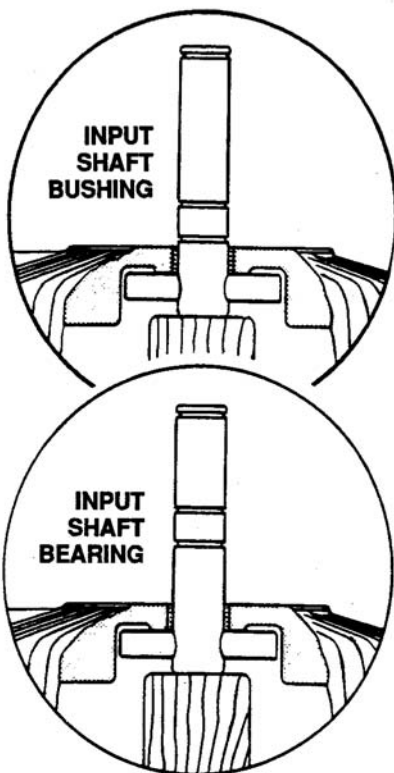

Figure 6-119. Input Shaft Support
5. Turn cover over. Support input shaft from underneath. Use a piece of steel bar stock or hard wood — 2 inches in diameter by at least 2-1/2 inches long to keep the shaft cross pin against the cover. See Figure 6-119.